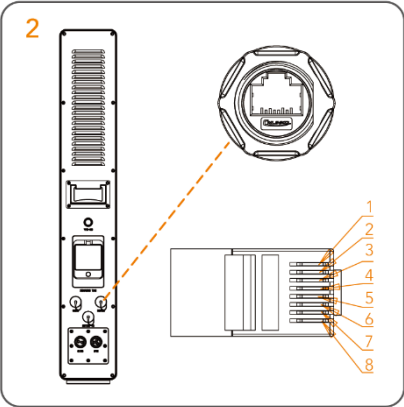

Figure 5-14 - DRM RJ45 pins
2. Make the RJ45 terminal with tools according to the identification in figure 5-14;